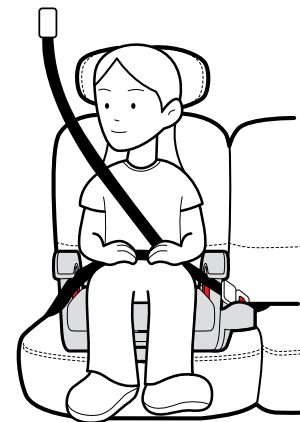

Figure 2
- The Shoulder Belt Guide **MUST** be at or above the child's shoulder, as shown in **Figure 2**. If the child's shoulder is above the Shoulder Belt Guide with the Headrest in its highest adjustment position, your child is too large for using this booster seat in full back mode.